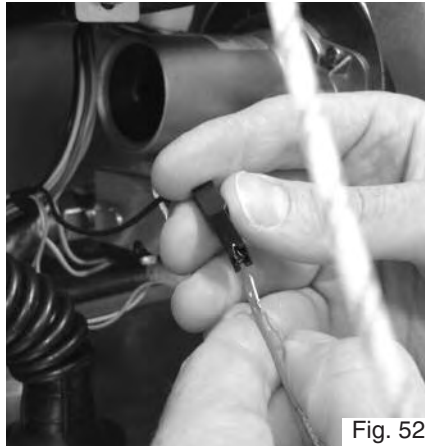

Fig. 52
3. Disconnect the detection electrode cable (Fig. 52);